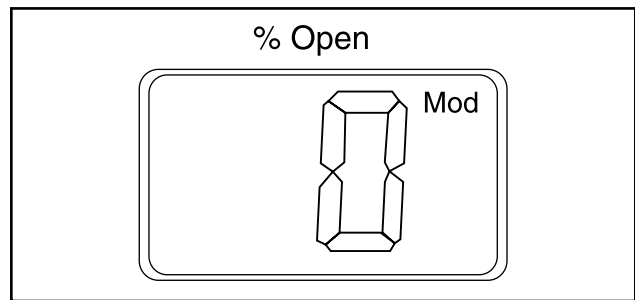

Figure 26
- To exit from the Parameter list and return to the display of Opening Degree (OD), keep the push button activated for 2 seconds.
- Display (Figure 26)